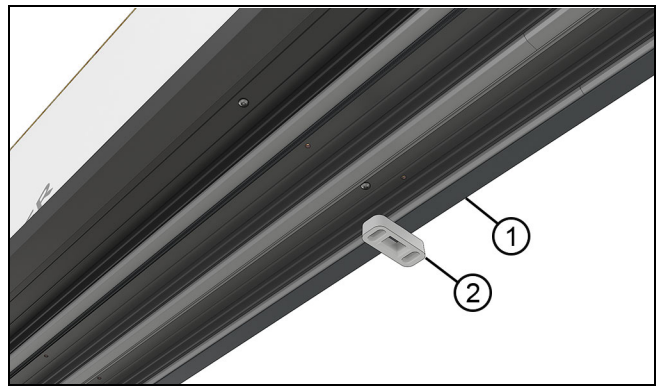
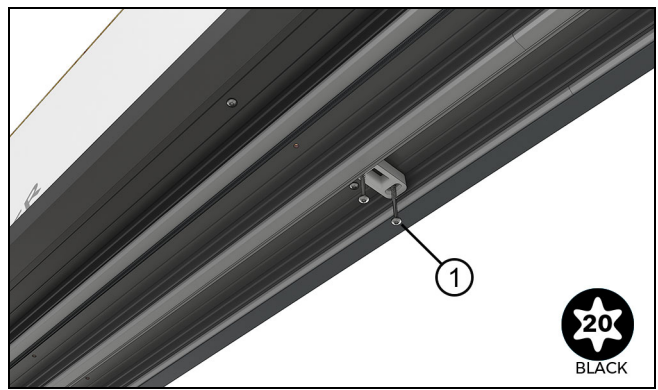

Figure 65
Figure 66
5. On bi-parting units, fasten the flush bolt strike through the pre-drilled holes near the center of the head jamb using #10x3" (64) screws. Make sure there is adequate shimming between the RO and the head jamb at the location of the strike. See Figure 65 and Figure 66.